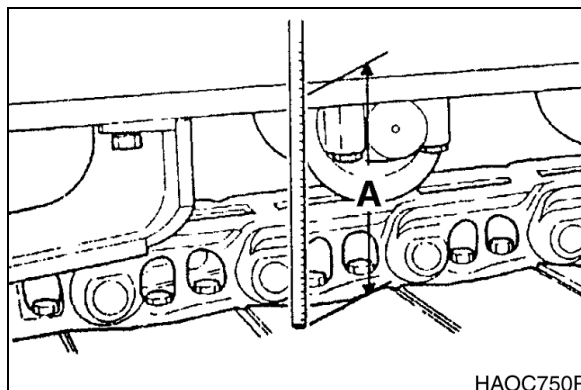

Figure 97
2. Measuring the distance (A, Figure 97) between the bottom of the side frame and the top of the lowest crawler shoe. Recommended tension for operation over most types of terrain is 260 - 270 mm (10.2 - 10.6 in)